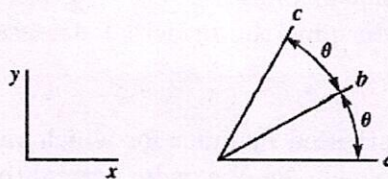

Figure 5
**Q.6** A strain rosette with gages spaced at an angle  $\theta$  is cemented to the free surface ( $\epsilon_{zz} = \epsilon_{xz} = \epsilon_{yz} = 0$ ) of a member, see Figure 5. Under a deformation of the member, the extensional strains measured by gages a, b, and c are  $\epsilon_a$ ,  $\epsilon_b$ , and  $\epsilon_c$  respectively.